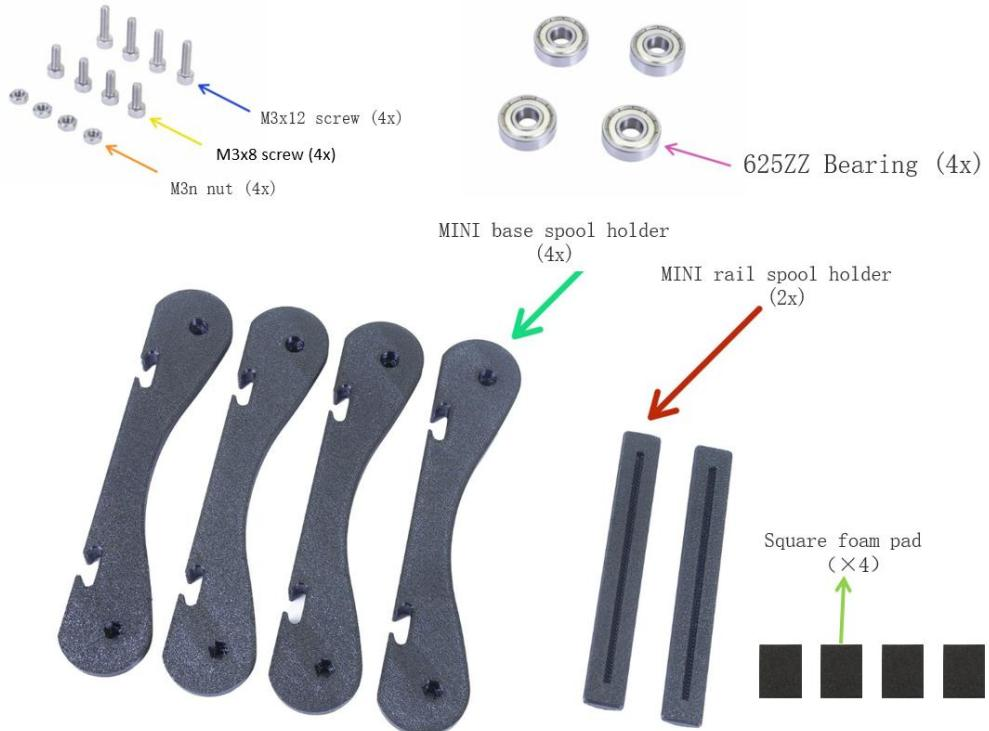

Figure 5.4.1
**Step 5-4-1:** As shown in Figure 5.4.1. Prepare the materials and check whether the quantity of materials is correct, and prepare for the next installation.